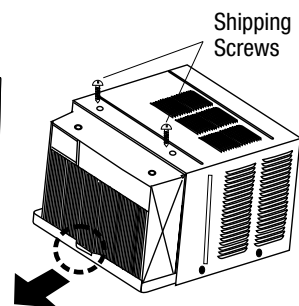

FIG. 5
7. Remove shipping screws from top of unit and also on the side by the base if installed. (See Fig. 5.)